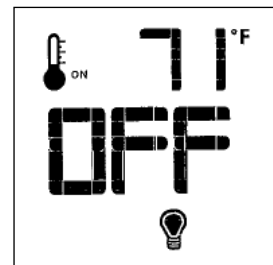

Fig. 15.15. Lamp Control.
- With the Remote ON, press the Mode Key to index to the Lamp icon. Figs. 15.15.
- Pressing the Down Arrow Key will turn the Lamp OFF. Fig. 15.15.